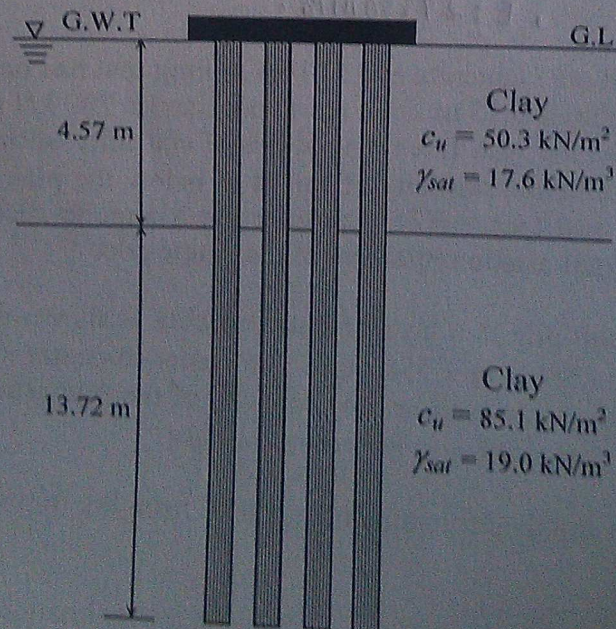

Figure 1
2. Determine the (i) Safe vertical capacity, (ii) Lateral capacity and (iii) Safe uplift capacity of the single pile as per IS 2911 (Part 1/Section 2) - 2010 for the layered soil stratum as given in Table 2. Contribution of 5 m top portion measured from existing natural ground level of the pile can be ignored in the theoretical capacity calculation. The ground water table is found at the ground level (GL). The following data are given: Pile length = 36.5 m , Pile diameter = 1200 mm , Cut off level = 0 m below GL, Earth pressure coefficient (K_s) = 1.0 , Unit weight of pile material = 2.5 Ton/m^3 . Consider the fixed head pile and the first two layer as NC Clay for lateral pile capacity calculation. , $E = 29580\text{ MPa}$, [10 + 5 + 2]
4. The section of a 3×4 group pile in a layered saturated clay is shown in Figure 1. The piles are square in cross section ($356\text{ mm} \times 356\text{ mm}$). The center-to-center spacing of the piles is 889 mm . Determine the allowable load-bearing capacity of the pile group. Use $FS = 4$. Note that the groundwater table coincides with the ground surface. [5]